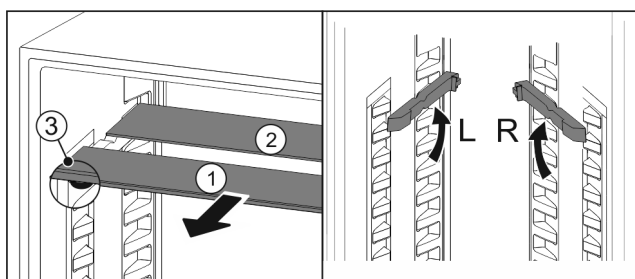

Fig. 140
- Pull the glass panels out Fig. 140 (1) from the front, one at a time.
- The glass panel Fig. 140 (1) and trim strip are at the front.
- The stops Fig. 140 (3) point down.